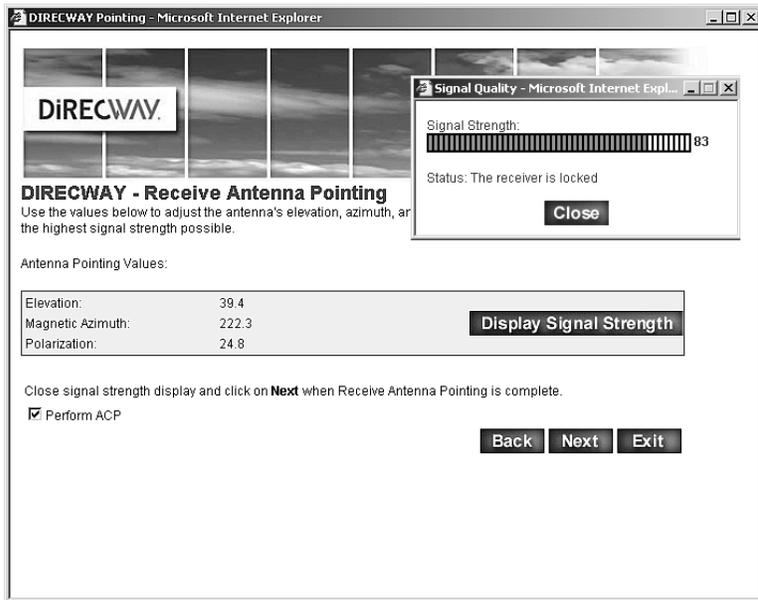

Figure 64: Receive pointing
5. Click **Display Signal Strength** on the Receive Antenna Pointing screen shown in Figure 64 to open the Signal Quality window.